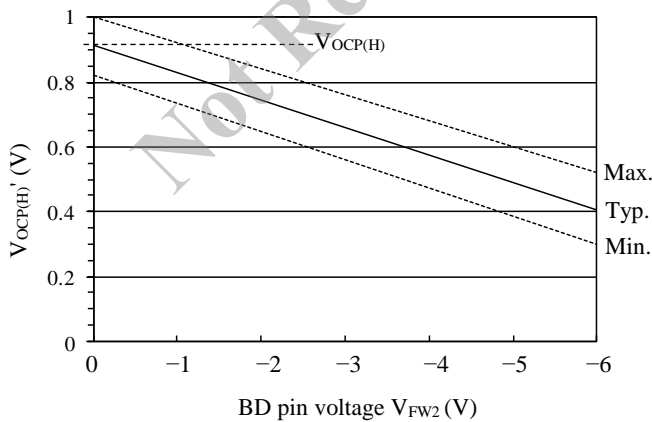

Figure 9-28 Overcurrent threshold voltage after input compensation,  $V_{OCP(H)}$  (reference for design target values)
4)  $V_{OCP(H)}$  is the overcurrent threshold voltage after input compensation. Figure 9-28 shows a relationship of  $V_{OCP(H)}$  and BD pin voltage,  $V_{FW2}$ .
$V_{FW2}$  at maximum AC input voltage is calculated by using Equation (7).  $V_{OCP(H)}$  and this variation are gotten by using the result from Figure 9-28.
Referring to Figure 9-28, when  $V_{FW2}$  is compensated to  $-2.92 \text{ V}$ , the overcurrent threshold voltage after input compensation,  $V_{OCP(H)}$ , is set to about  $0.66 \text{ V}$  (typ).